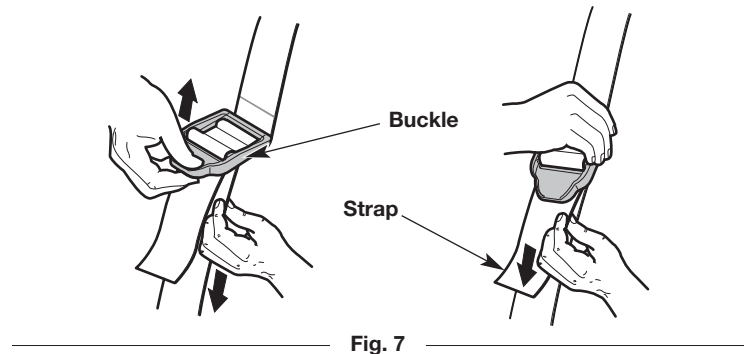

Fig. 7
4. Adjust the shoulder strap to fit the operator (Fig. 7). Pull the buckle up to loosen the shoulder strap. Pull the strap down to tighten the shoulder strap.